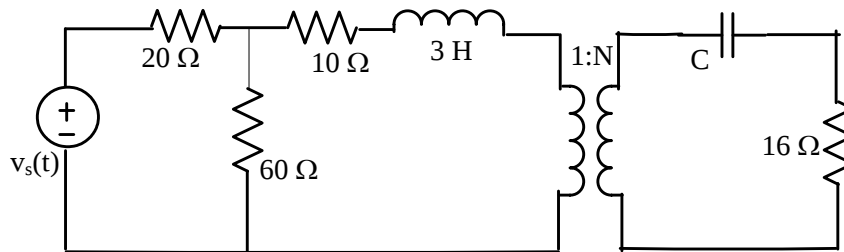

Fig 4.
4. The source voltage in the circuit shown in Fig.4. is $v_s(t) = 120 \cos 377t$, volts RMS. The network on the primary side of the ideal transformer is required to supply maximum power P_m to the capacitive load connected to the secondary. Determine